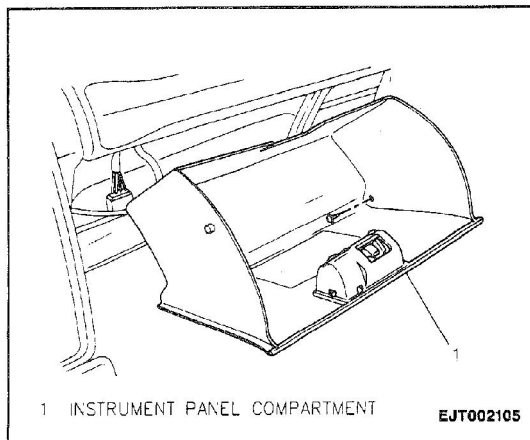

Figure 13—Instrument Panel Compartment
- 3. One screw and instrument panel compartment from instrument panel (Figure 13).
- 2. Instrument panel compartment to instrument panel; secure with one screw (Figure 13).